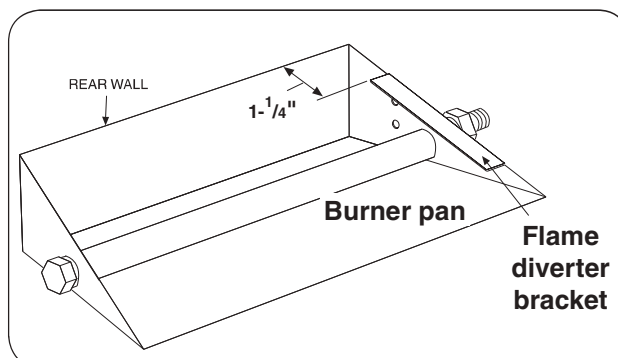

Fig. 6-1 Install diverter bracket (if applicable)
1. Place the flame diverter bracket over the side edge of the burner pan, near the location the safety control system pilot bracket will be attached. It should be placed **approximately 1-1/4"** from the rear wall of the burner pan (see Fig. 6-1).